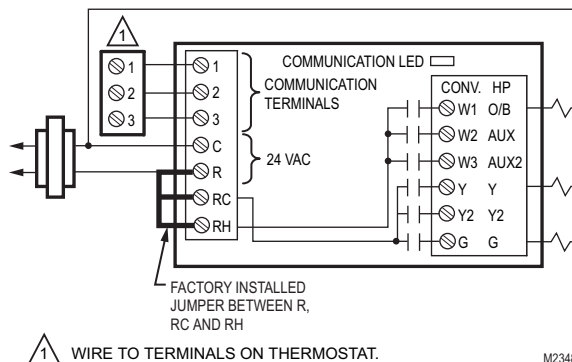

Fig. 10. Typical hookup of conventional single-stage heat and cool system with single transformer (1H/1C conventional).
All wiring must comply with local electrical codes and ordinances. See Fig. 10–20.
6. See Fig. 10–20 for typical wiring hookups.